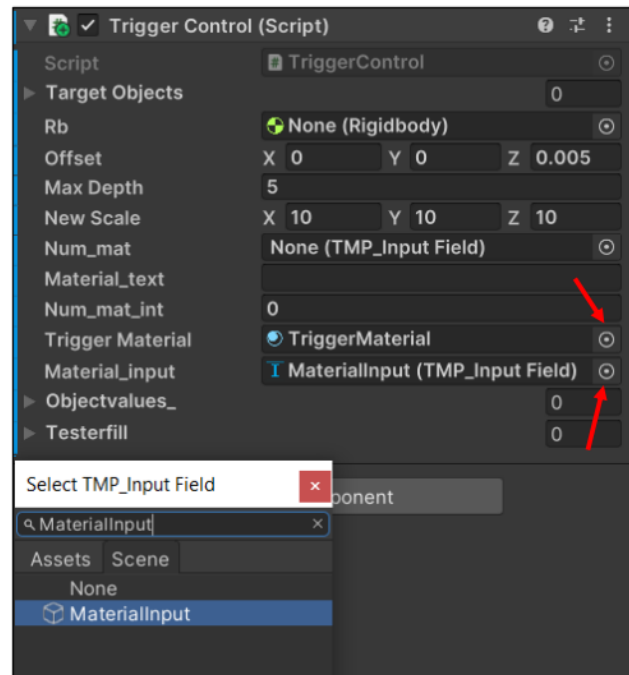

Figure 14: Finalizing the Board
- c. Finally, directly under the Trigger Material field should be one titled Material Input. Similar to the last step, click the small circle to the right of the field, but instead type “MaterialInput”, and click the item that comes up. Leave all other fields in this section untouched. Your board is now ready to be run through the simulation. Figure 14 shows what the fields should look like once completed properly.